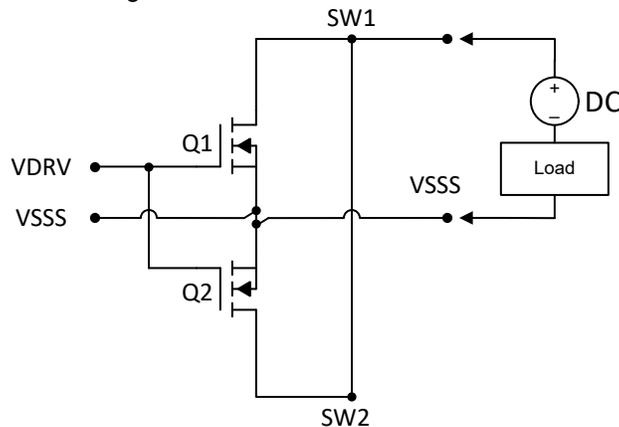

Figure 4-2. DC Load
- b. Figure 4-2 shows an application using two parallel common source MOSFETs. This action allows the users to achieve lower RDSON. Because one MOSFET cannot block reverse current when off, the recommended load for this configuration is a DC load.